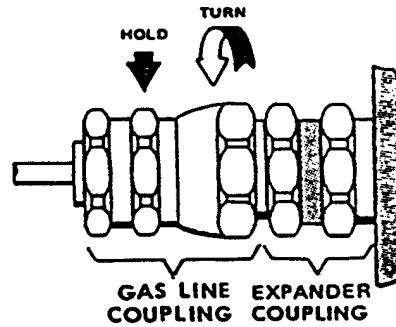

Figure 4 Disconnect Gas Line from Cold Head
2. After breaking the connection, hold the coupling adapter with one wrench. Remove the gas line coupling from the cold head coupling with the second wrench. See Figure 4.